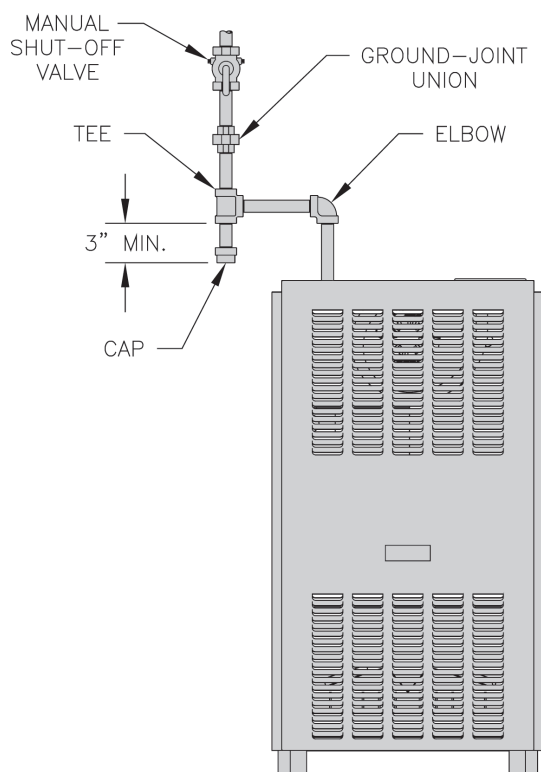

Figure 27: Recommended Gas Piping
3. Install sediment trap, ground-joint union and manual shut-off valve upstream of boiler gas control valve and outside jacket. See Figure 27.